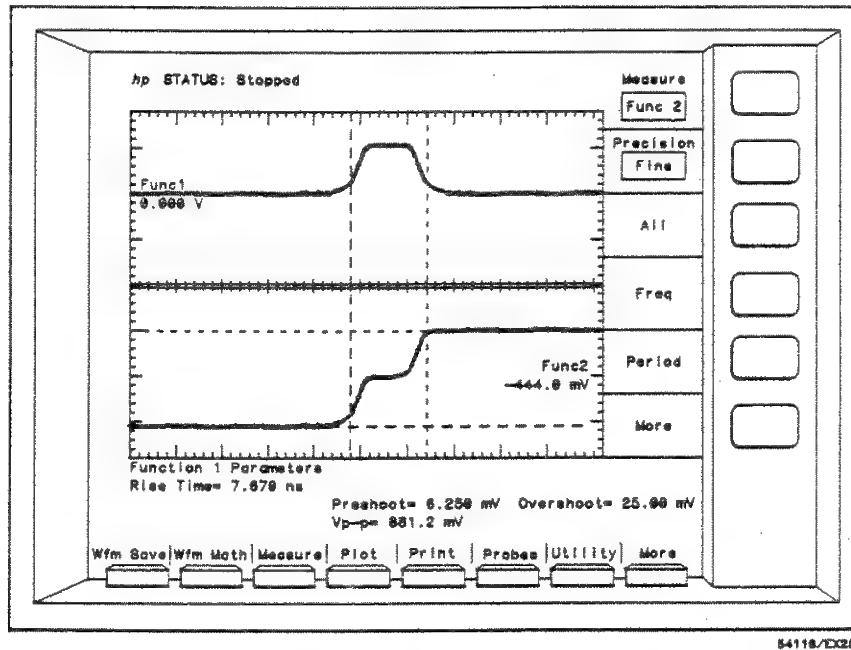

Figure 7-30. Automated Measurements on Func 2.
9. Select func 2 and again measure "All" parameters (see figure 7-30).